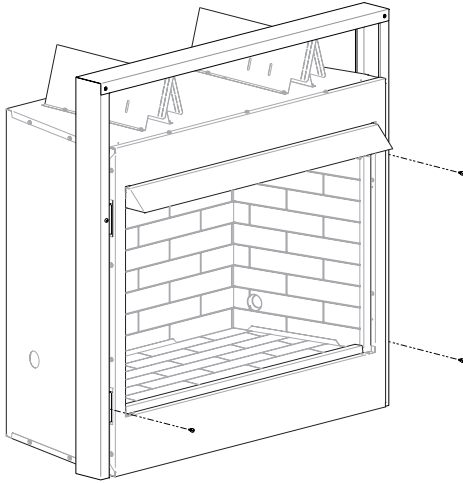

Figure 9
- Slide the firebox into position inside the metal studs. Secure the firebox to the metal studs with four #10 pan-head screws as shown in Figure 9.